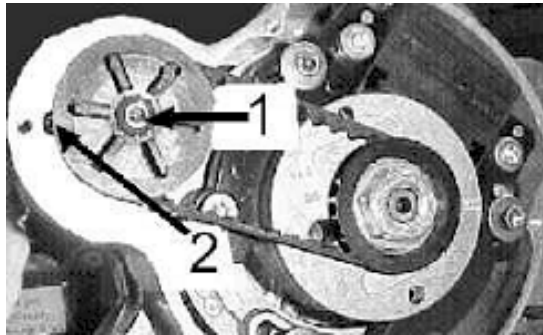

Figure 38
9. Remove bearing retainer screw using a 3mm hex key. (Figure 38 – item 2)